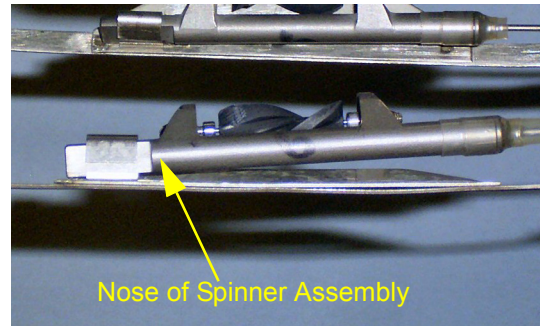

Figure 5.6 Sensor Assembly Removal
- 2 Remove locking ring (item 16, 40560) from Sensor Head (item 1, see Figure 5.6).